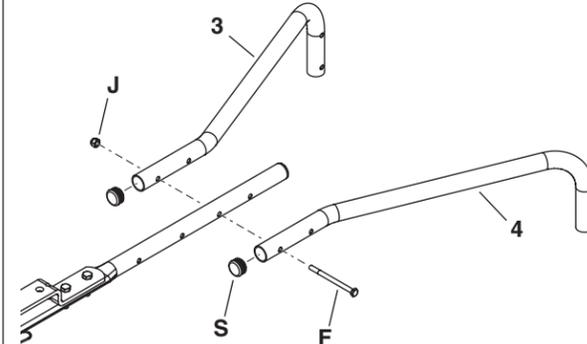

Figure 2
STEP 2: (SEE FIGURE 2)
- Attach the hitch support tubes (3), and (4) to the hitch tube using one 1/4" x 3-1/2" hex bolt (F) and 1/4" nylock nut (J). **Do not tighten completely.**
- Insert plugs (S) into the end of the hitch tubes (3 and 4).